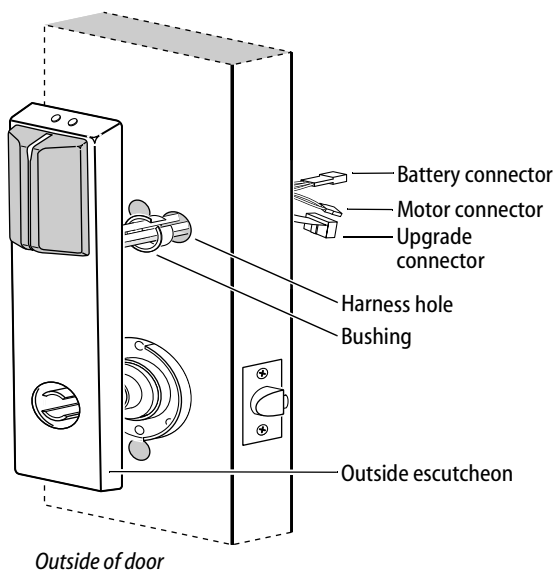
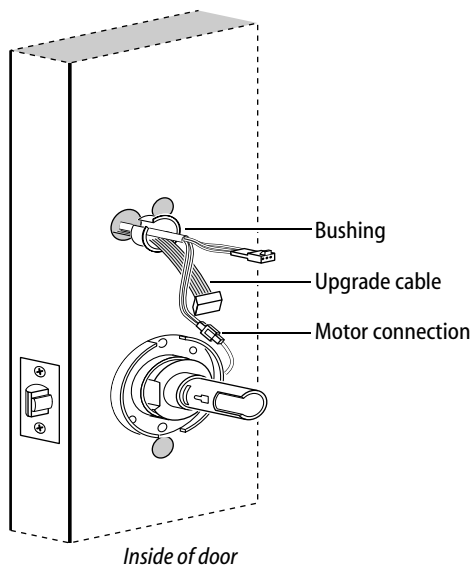

Figure 11 Feeding the wire harness connectors through the harness hole
Figure 12 Making the motor connection
- 1 Insert the two bushings into the harness hole on each side of the door, as shown in Figure 11 and Figure 12.